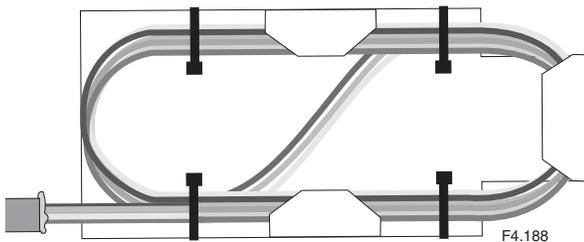

Figure 2
2. Organize the buffer tubes inside the basket in large loops. Hold the loops in place with tie wraps. Tie wraps must be inserted so that the head of the tie wrap is inside the basket. (Fig. 2)